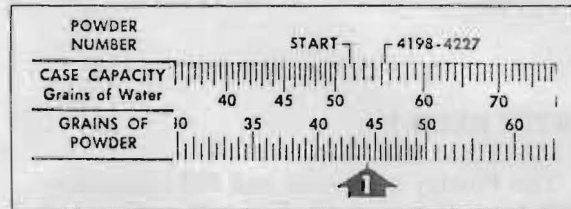

FIGURE 2 — Step 1: Set your case capacity at 51.5 and you get a recommended powder charge of 44.3 grains (indicated at Arrow 1).
Step 1. After determining case (water) capacity to the base of the bullet — it's 51.5 grains — move the computer slide until the 51.5 CASE CAPACITY point is directly under START. Arrow 1 shows that 44.3 grains of powder is the recommended charge (see Figure 2). Jot down "Charge, 44.3 grs." on your pad.